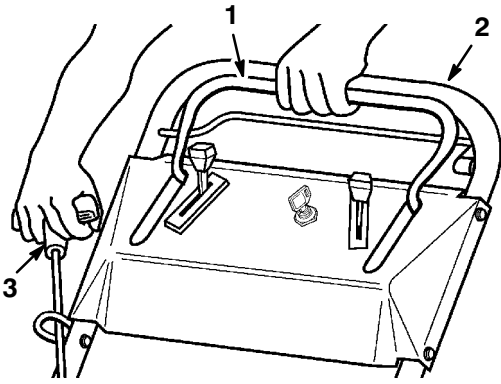

Figure 36
11. Hold the blade control bail against the upper handle (Fig. 36) and pull the starter rope several times to blow out any loose carbon.